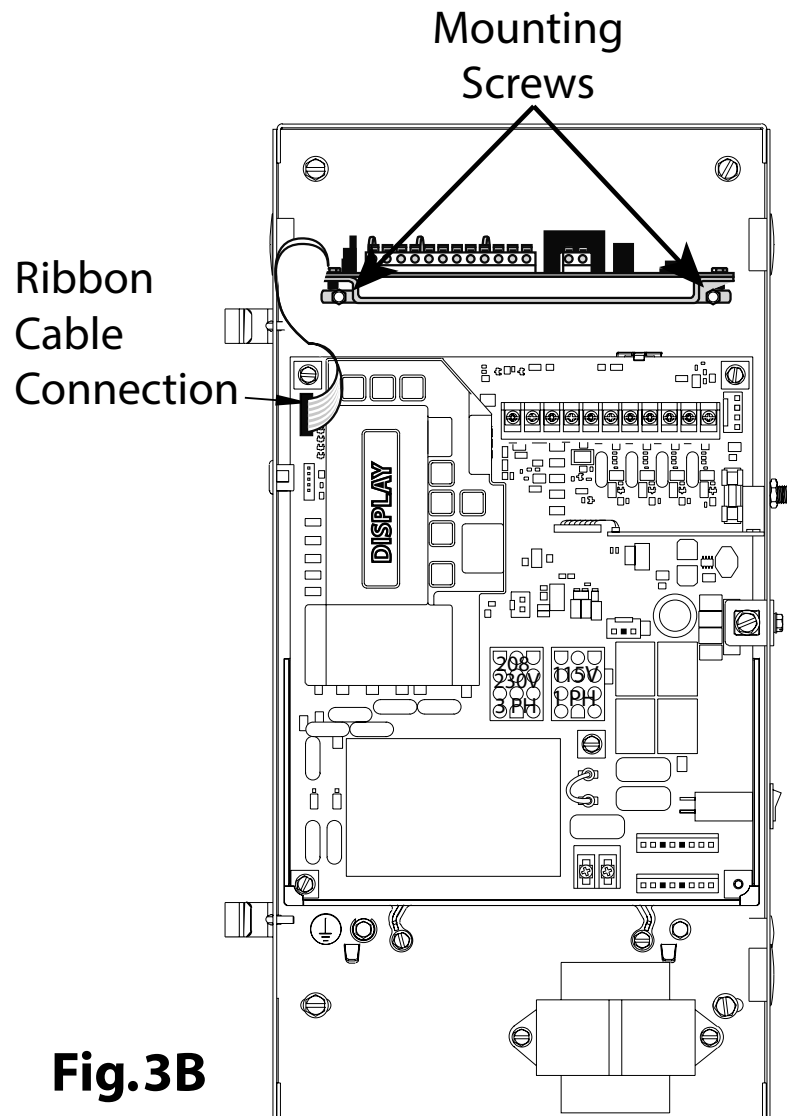

Fig.3B
3. Install Timer Close Module. (Fig. 3B)